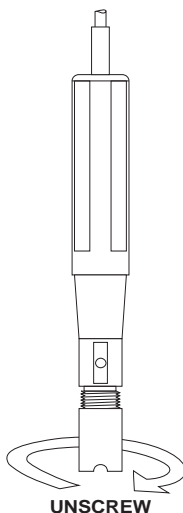

fig. 2
- Unscrew the membrane by turning it counterclockwise (see fig. 2).